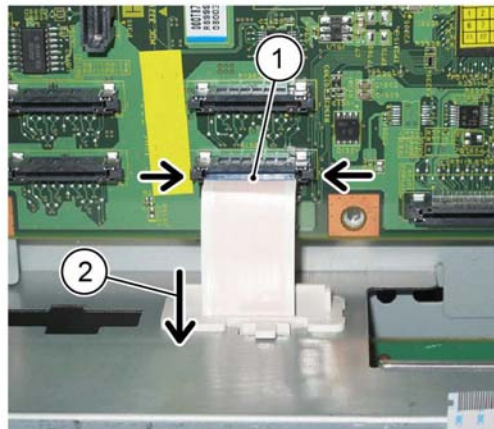

Figure 5 FFC cable
6. Disconnect the FFC cable, Figure 5:
- a. Carefully disconnect the FFC cable (1) by releasing the side clips.
- b. Pull down the FFC cable (2).